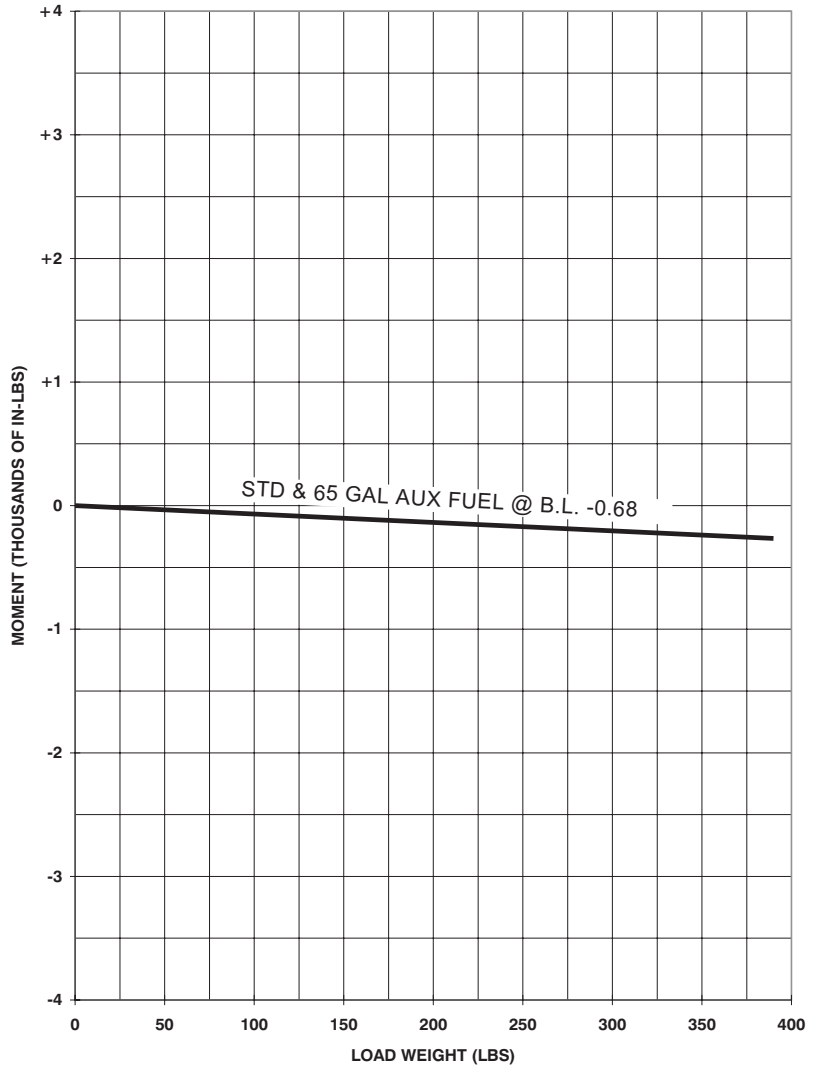

Figure 6-4. Weight and Moment Chart - Lateral
- Determine weight and lateral moment of useful load items (see Figure 6-4).